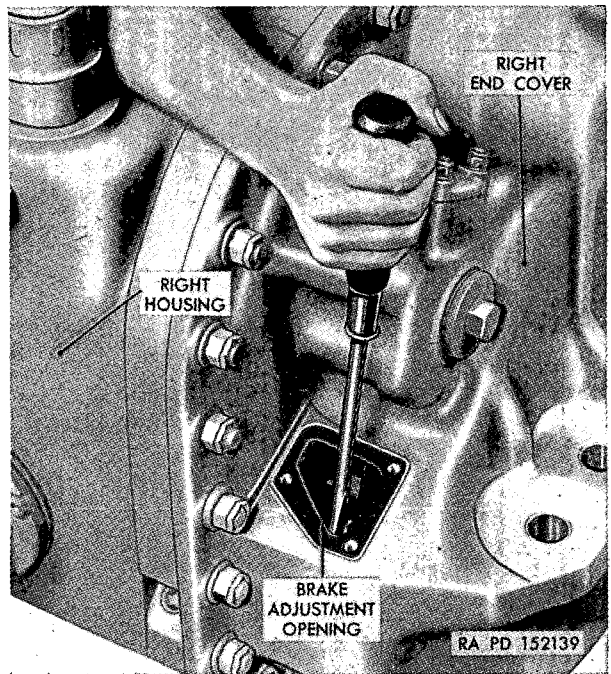

Figure 400. Turning brake adjusting screw.
- (6) If the "A" line stopped below the top of the indicator, use a screwdriver to tighten the brake by turning the adjusting screw in a clockwise direction (fig. 400).
- (7) If the "A" line stopped above the top of the indicator, loosen the brake by turning the adjusting screw in a counter-